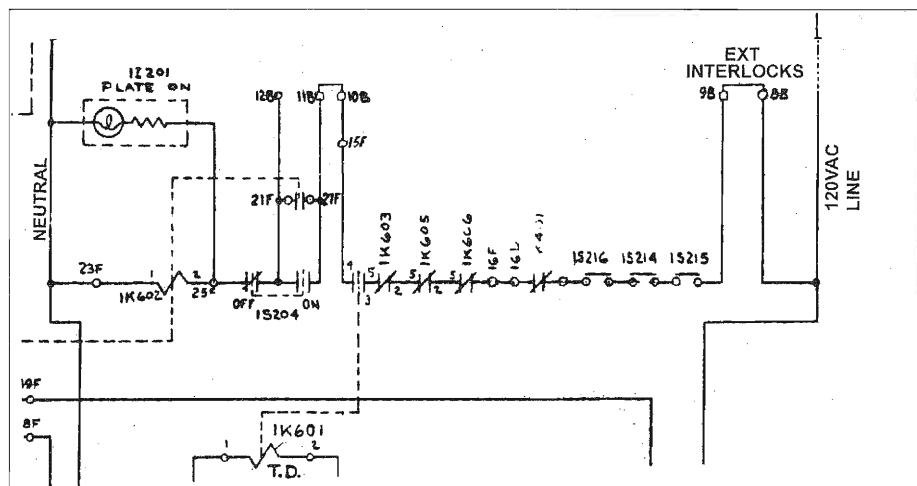

Figure 4: Examples of typical industrial control schematic relay symbols used by RCA, and also a portion of the PLATE control ladder. See text for details.
BTA-1R1. The schematic symbols for the control system, commonly called the control ladder, especially as it applies to relays, may be unfamiliar to some readers. Unlike amateur transmitter schematics which show relay contacts like standard toggle switch contacts, the broadcast transmitters (and some two-way radio transmitter systems) used a totally different symbol system that is always seen in industrial control systems like motor starters and HVAC systems. **Figure 4** shows examples from the "Plate On" control ladder of the BTA-1R1. The schematic was scanned from a copy of the original manual and I have touched up portions of **Figure 4** in Photoshop® for this article but it still has some areas that are difficult to read. Normally-open contacts look like a capacitor as shown on the "on" side of 1S204 and normally-closed contacts look like a variable capacitor as shown in 1S204 "off" and the contacts for 1K603, etc. The associated relay coil may or may not have a dotted line to all the contacts. You will notice 1K601 time delay (TD) does have the dotted line. Sometimes, only the designations on the schematic tie the coil to the contacts, which can be scattered all over the schematic as is the case with 1K603 and 1K605, etc. It takes some getting used to, but after awhile should be no problem following. **Figure 4** also shows another feature usually always used in commercial equipment. The "Plate Off" circuit, here 1204, is usually a normally closed contact in series with the "Plate On" line that must be opened to shut down. This is done to account for the fact that very often several relays have to be de-energized, and also the fact that all interlocks (here 1S214-216) usually are in series with the "Plate On" command, thus any interruption to the "Plate On" (HV On) control line kills the high voltage by unlatching the electrically latched "Plate On" Relay 1K602 in this case. The "Plate On" relay is electrically